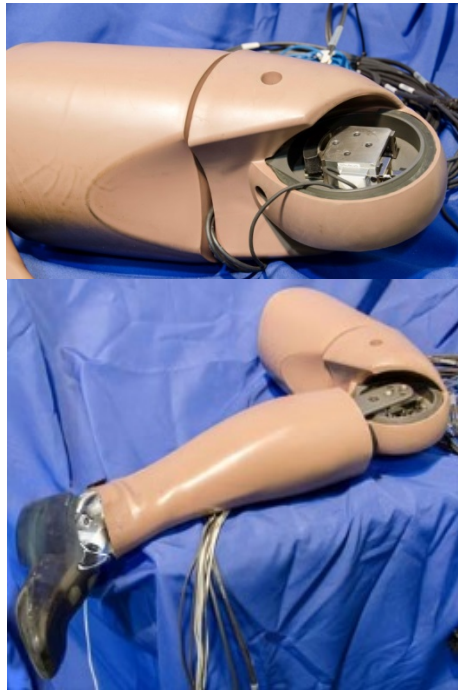

Figure 12-73. Align knee clevis to holes in knee assembly
- 12.2.3.1 With the lower leg perpendicular to the upper leg, align the holes of the knee clevis (attached to the Lower Extremity) with the threaded holes in the knee assembly (Figure 12-73).